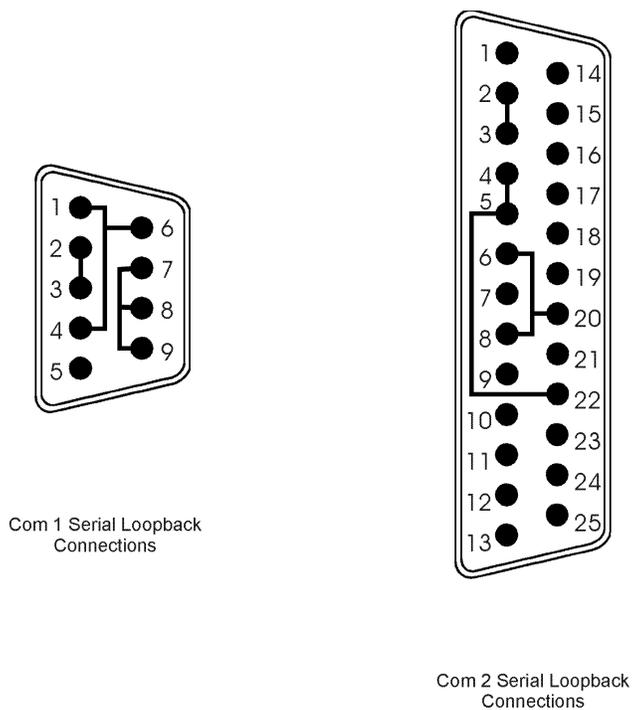

Figure 2-1. Serial Loopback Connections
- Two serial loopback test connectors (refer to Figure 2-1 for pinouts)
3. Connect the serial loopback connector(s) and the printer cable to the appropriate connectors and connect a PC/AT or PS/2 keyboard. Figure 2-1 illustrates the wiring necessary for the loopback connection.